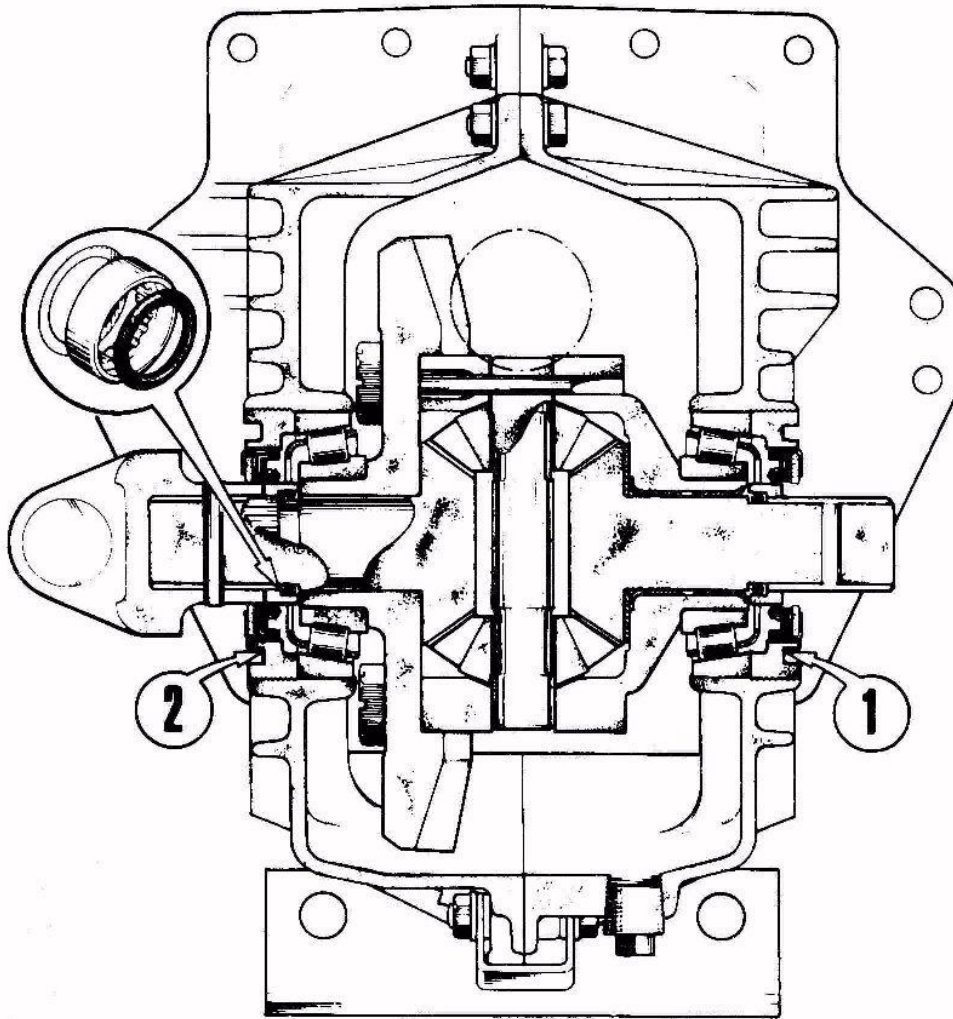

Fig. 44.
The adjustment is obtained by screwing nuts (1) and (2) in or out. (see Fig.44.)
Continue to screw in the nuts, which push in the bearing track rings. Take care to screw in nut 2 (Fig. 44.) on the differential housing side a little more than the one on the other side in order to obtain a crown wheel and pinion back lash which is slightly larger than that required on final assembly.
(See Fig. 44.)